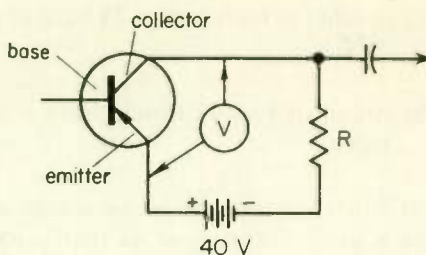

Fig. 46
7. In Fig. 46 the collector-to-emitter circuit of a transistor is shown in series with R and across the 40-V battery. Voltmeter V reads the collector-emitter voltage. If the voltage across R is 12 V, the voltage between collector and emitter is 28 volts.